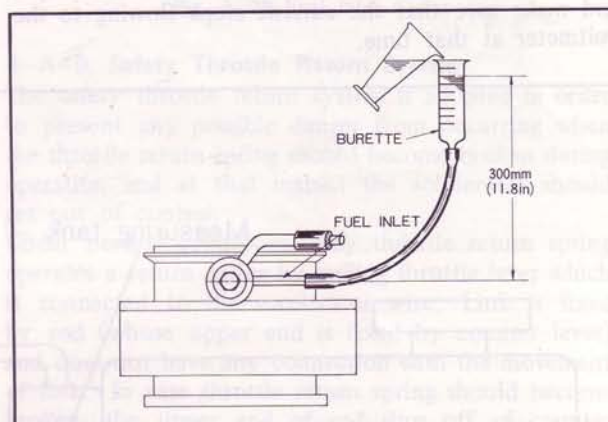

Fig. 4-14 Checking fuel discharge
5. Set the fuel level in the burette at 300 mm (11.8 in) above the fuel inlet, as shown in Fig. 4-14.